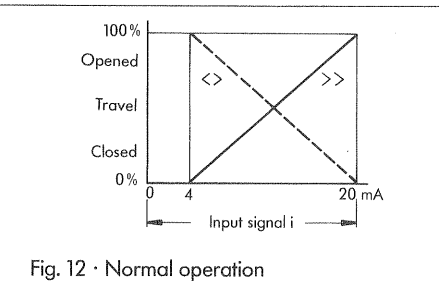

Fig. 12 · Normal operation
When the positioner is adjusted, the travel must be adapted to the electric signal and vice versa. With an electric signal of 4...20 mA, for example, the travel also must pass the entire range 0...100% (Fig. 12).
If the valve should still overshoot, first throttle the air output of the positioner corresponding to the desired dynamic response of the valve. For this adjustment use the volume throttle Q (10). Then, if required, readjust the  $X_p$ -throttle, but under no circumstances beyond the maximum value shown in the diagram Fig. 12. Otherwise it could happen that the positioner does not vent sufficiently and the valve does not move into the zero position (e.g. closed position).